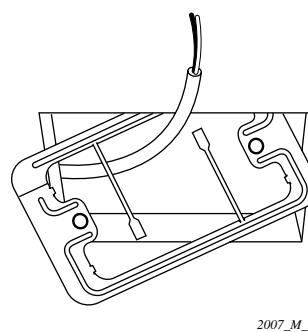

Fig. 7-19
- (1) Remove the cover plate by inserting a flat tip (minus) screwdriver or similar tool into the notch in the lower section and prying it off.
- (2) Cut out a section (3-3/4 x 2-1/32 in.) on the ceiling using the paper pattern (supplied) as a guide.
- (3) Run the wire through the mounting carrier and insert into the installation hole as shown in Fig. 7-19.